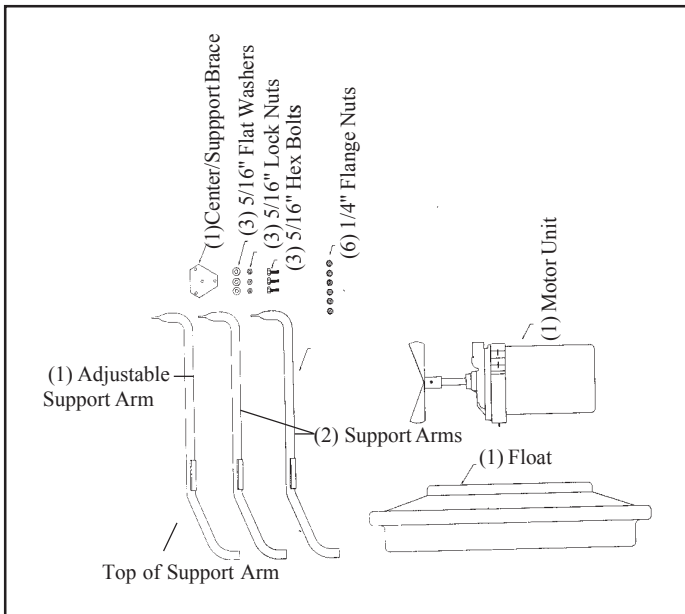

Figure 6
A. Check that all of the materials have been received. Verify that you have all the materials shown in Figure 6, plus the desired pumping system.